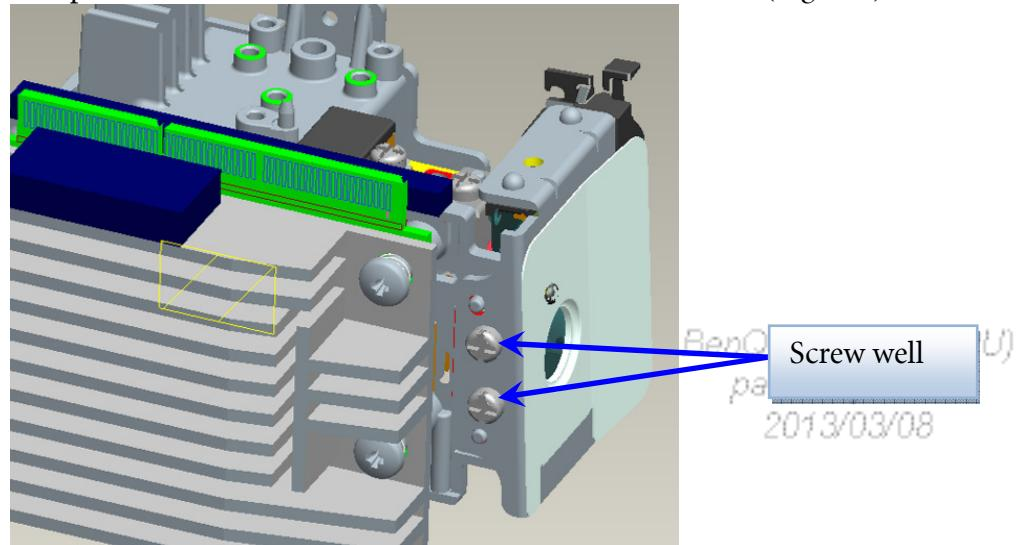

Fig. 5-6
5.4 Assemble “BKT Link Lamp & CW shield” on “DMD HSG” and then screws well (Fig. 5-6).